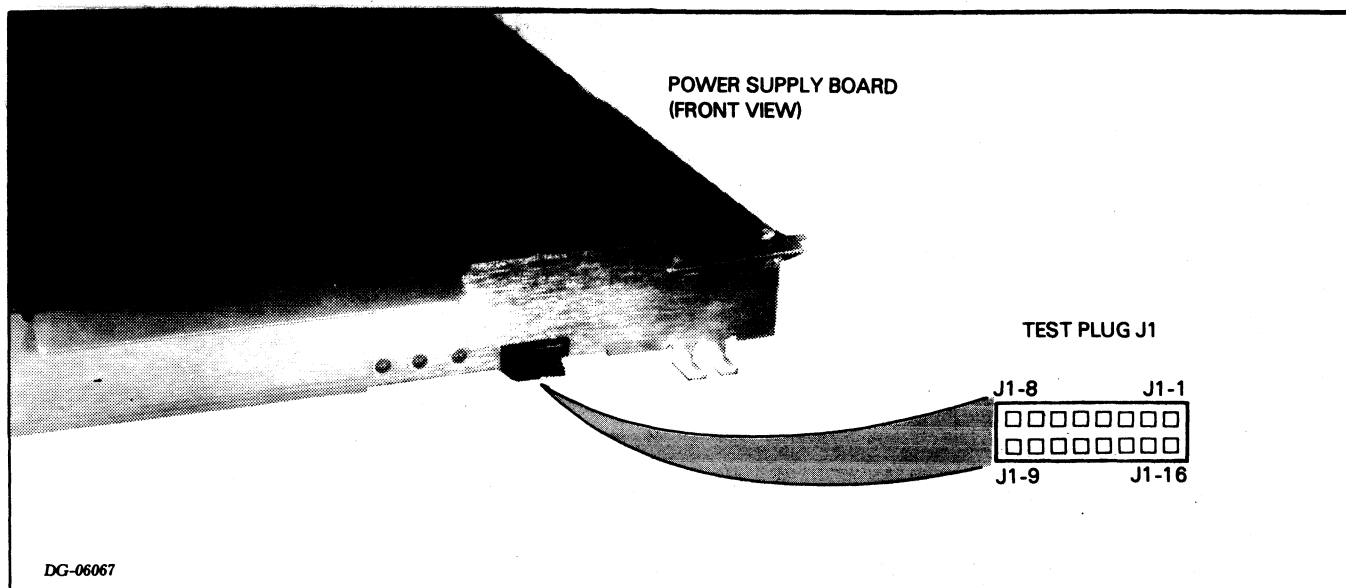

Figure 6.8 TEST PLUG
2. Check the +5V voltage at test plug J1-15 (see Figure 6.8). If +5V is between 5.10V and 5.20V, go to "Final Checkout"; otherwise, continue the checkout.
- If -11V is NOT between -11.0V and -12.5V (-30VNR not ok), check the **VREF** at test plug J1-14 (see Figure 6.8). If **VREF** is 5.8V, replace the VNR unit; otherwise, replace the power supply board.
- If -11V is between -11.0V and -12.5V (-30VNR ok), check the **HVS** voltage at test plug J1-4 (see Figure 6.8). If **HVS** is greater than 2.9V, replace the power supply board; otherwise, replace the VNR unit.
6. Recheck the +5V voltage at test plug J1-15 (see Figure 6.8). If it is between 5.10V and 5.20V, go to "Final Checkout"; otherwise, try replacing the internal cable (wiring harness). If this does not work, get help from DGC Field Service.
- Make sure the LOCK switch is in the UNLOCK position. If the fans still do not stop, check the PWR FAIL voltage at test plug J1-3 (see Figure 6.8).
- If PWR FAIL is less than 0.4V, check PON at test plug J1-11 (see Figure 6.8). If PON is less than 0.4V, replace the VNR unit; otherwise, replace the power supply board.